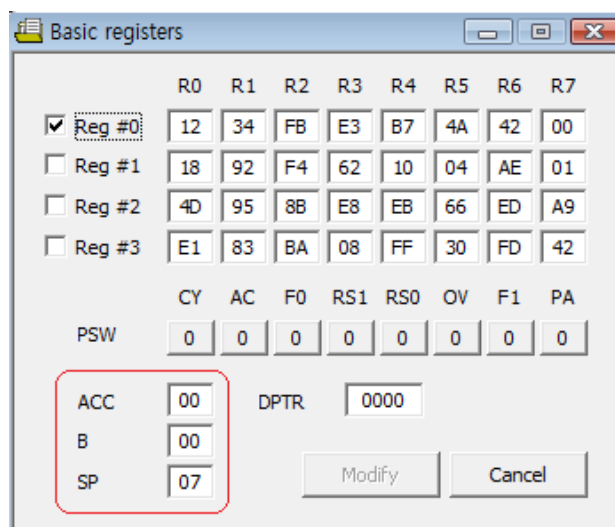

Figure 37. Using the Basic Registers Function, #5 of 6
In Figure 37, the red area highlights the Accumulator (ACC), the B Register (B) and the Stack Pointer (SP) registers. Enter a number in n 8-bit hexadecimal format to change any of these values.